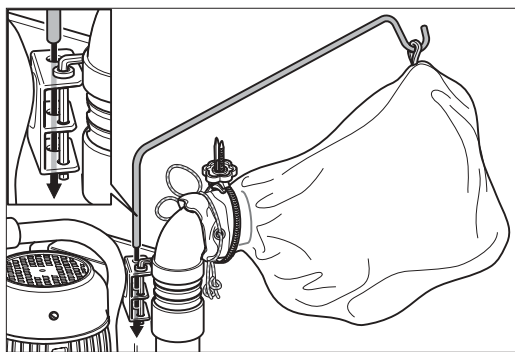

Fig. 6: Inserting the cable rod into the proper bracket.
- 7 Insert the cable rod into the proper bracket on the pipe bend (rear side of the machine) next to the Allen key (Fig. 6).